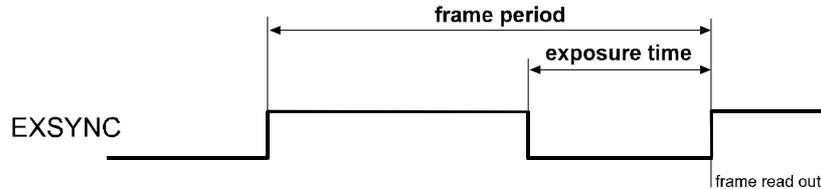

Figure 3-3: Exposure Time Level-controlled Mode
- In **level-controlled mode**, the exposure time of a frame being read out is determined by the time between the falling edge of ExSync and the next rising edge. Charge is only accumulated when ExSync is low. The frame is read out and transferred on the rising edge of ExSync. See Figure 3-3.